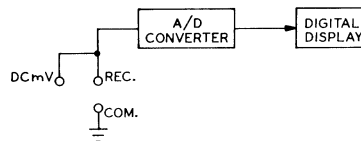

Figure 5-4. DC mV Measurement Mode
5.2.3 DC mV Measurement Mode: The basic circuit is shown in Figure 5-4. The DC voltage being measured is connected to the "DC mV" and "COM" jacks and via function selection switching applied directly to the A/D Converter. (See paragraph 5.2.1, last sentence.)